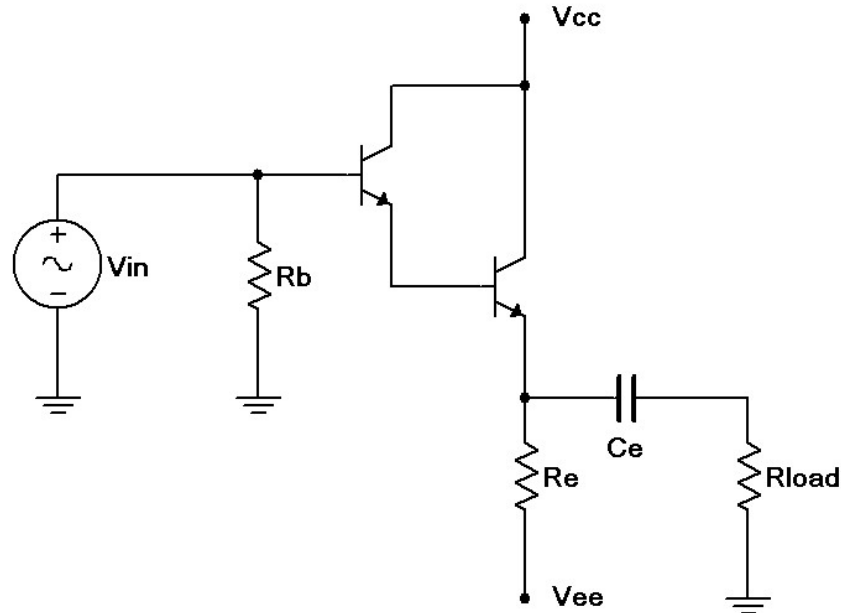

Figure 1
1. Consider the circuit of Figure 1 using $V_{CC} = 5$ volts, $V_{EE} = -12$ volts, $R_b = 47\text{ k}\Omega$, $R_e = 1\text{ k}\Omega$, $R_{load} = 100\text{ }\Omega$ and $C_e = 470\text{ }\mu\text{F}$. Determine the theoretical I_{CQ} , V_{CEQ} , $V_{CE(cutoff)}$ and $i_{C(sat)}$, and record these in Table 1. It is helpful to plot the AC load line for step three. Note that the collector-emitter saturation voltage for a Darlington pair cannot be assumed to be 0 volts, and may be closer to one volt, thus reducing the expecting voltage swing toward the saturation point. It is also worth noting that this amplifier has a *direct coupled* input (i.e., no input capacitor is required due to the very small DC base voltage).
2. Build the circuit of Figure 1 using $V_{CC} = 5$ volts, $V_{EE} = -12$ volts, $R_b = 47\text{ k}\Omega$, $R_e = 1\text{ k}\Omega$, $R_{load} = 100\text{ }\Omega$ and $C_e = 470\text{ }\mu\text{F}$. Disconnect the signal source and measure the DC transistor voltages to ensure the circuit is biased correctly. Record V_{CEQ} and I_{CQ} in Table 1 (Experimental).